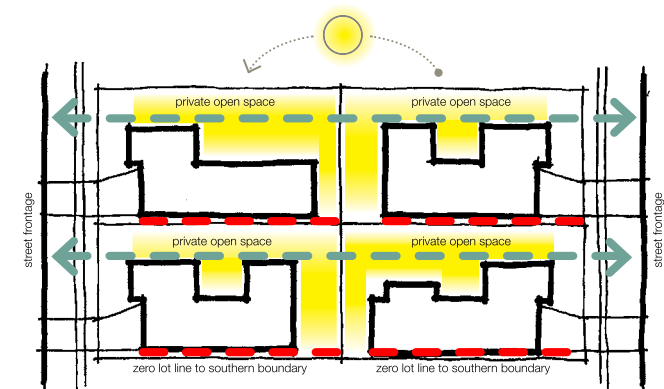

Figure 3
- To create north facing courtyards to allow north-light access into the dwelling (Refer to Figure 3).